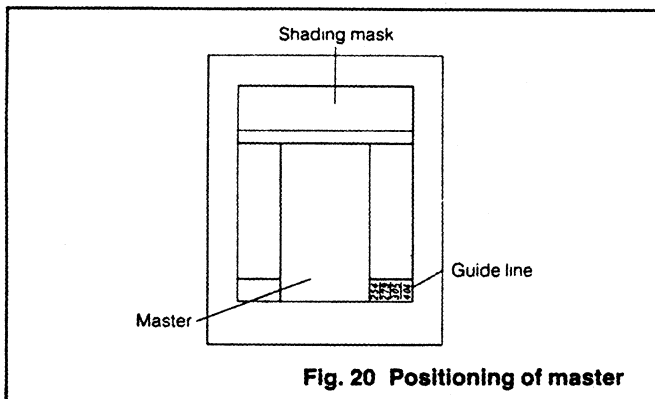

Fig. 20 Positioning of master
- ⑥ Set the spool so that it fits in the groove of the spool positioner.
⑦ Take off the master tape and feed the master onto the master vacuum board, lining it up with the guides as you proceed. Close the master loading door.
⑧ Turn the control roller knob to FREE. Pull the master through from the vacuum board, passing it between the control roller and the feed roller and between the two blades of the cutter; feed it through as far as the section marked "A".
⑨ Hold the master around the section "A" in your hands and line the right-hand end of the master up with the guide line on the lower right hand side of the vacuum board (Fig. 20).